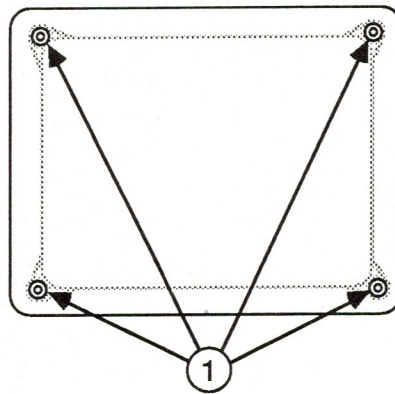

FIGURE 11
6. With the bezel face down, apply a mylar washer to each of the four CRT mounting holes on the bezel (Figure 11, #1). Each washer should be centered with its center hole matching the screw hole in the bezel.